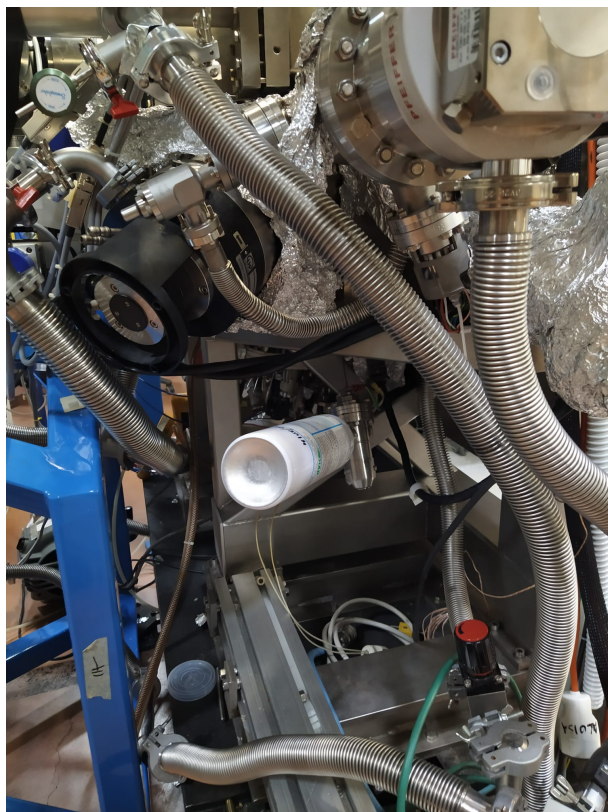

Figure 36: Ar ion Gun.
5. Using the Ion Gun leak valve (see fig.36) set a total pressure of argon of $2 \times 10^{-6} \text{ mbar}$. **Always look at the pressure monitor while opening the leak valve.**